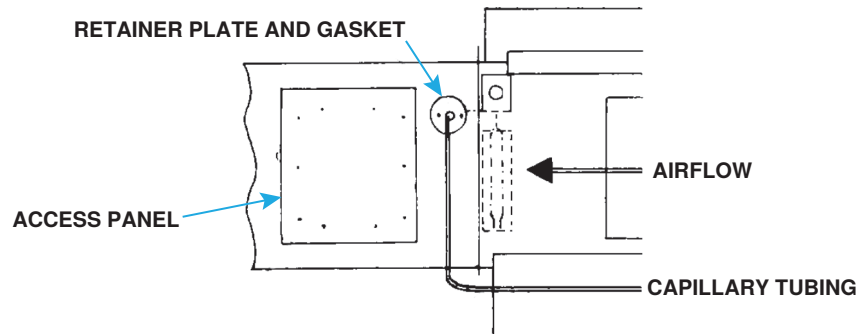

Figure 9. Capillary Sensor Installation
- (2) At selected ductwork location, mark and cut 1/2-inch hole that will be sealed with gasket and retainer plate (see Figure 9). Push sensor and capillary tubing through hole.
- (3) Remove ductwork access panel (see Figure 9) and install sensor in sensor holder so that it senses air temperature as it flows through holes in holder.
- (4) Position sensor holder and junction box assembly inside ductwork so that sensor will be shielded from direct airflow and secure junction box to ductwork using four field-supplied #6 sheet metal screws.
- (5) Slide gasket (cut slit) and retainer plate over capillary tubing. With gasket next to ductwork, install hole retaining plate and secure using field-supplied sheet metal screws.
- (6) Close ductwork access panel.